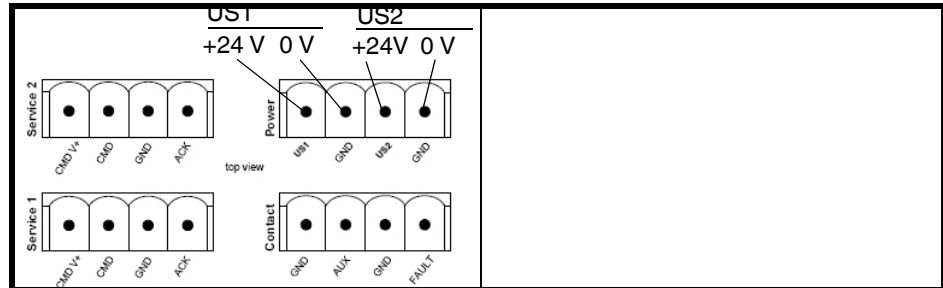

Figure 5-4 Connecting the voltage supply
- Insert the screw terminal blocks into the intended sockets on the top of the MGuard (see Figure 5-4).